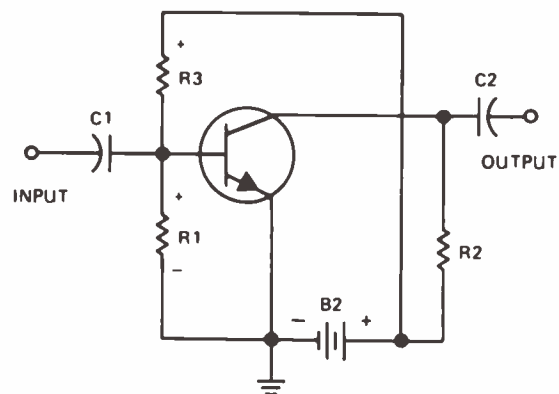

Figure 3. A common-emitter circuit with a single battery.
A disadvantage of the circuit shown in Fig.1(C) is that it requires two batteries. However, by adding resistor R3, as shown in Fig.3, we can eliminate B1. Current from the negative terminal of B2 flows through R1 and R3 to the positive terminal of B2. The current flowing through R1 develops a voltage across it having the polarity shown. This places a forward bias across the emitter-base junction of the transistor. At the same time, the voltage drop across R3 will be greater than the voltage drop across R2.
Bias Stabilization. There is still one problem with the circuit shown in Fig.3. The forward bias across the emitter-base junction of the transistor can change due to minority carriers crossing the collector-base junction. These carriers cause a current flow through R1 in the external circuit that will increase the voltage drop across it. This increases the number of majority carriers crossing the emitter-base junction, which in turn